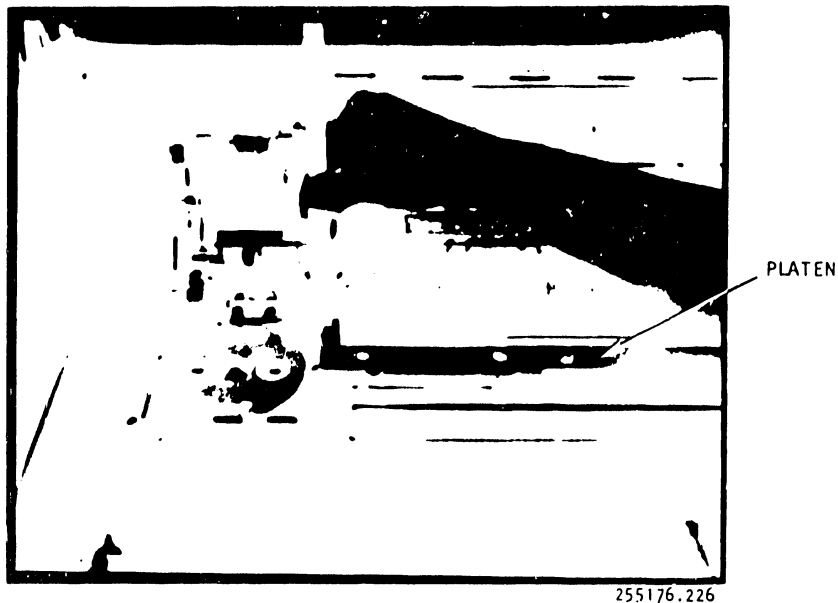

Figure 3-5. Paper Clamp Armature Assembly Adjustment Check
- k. Place a feeler gauge of appropriate size between the platen and the ribbon mask to check the adjustment on both sides and in the center of the armature assembly. See figure 3-5.